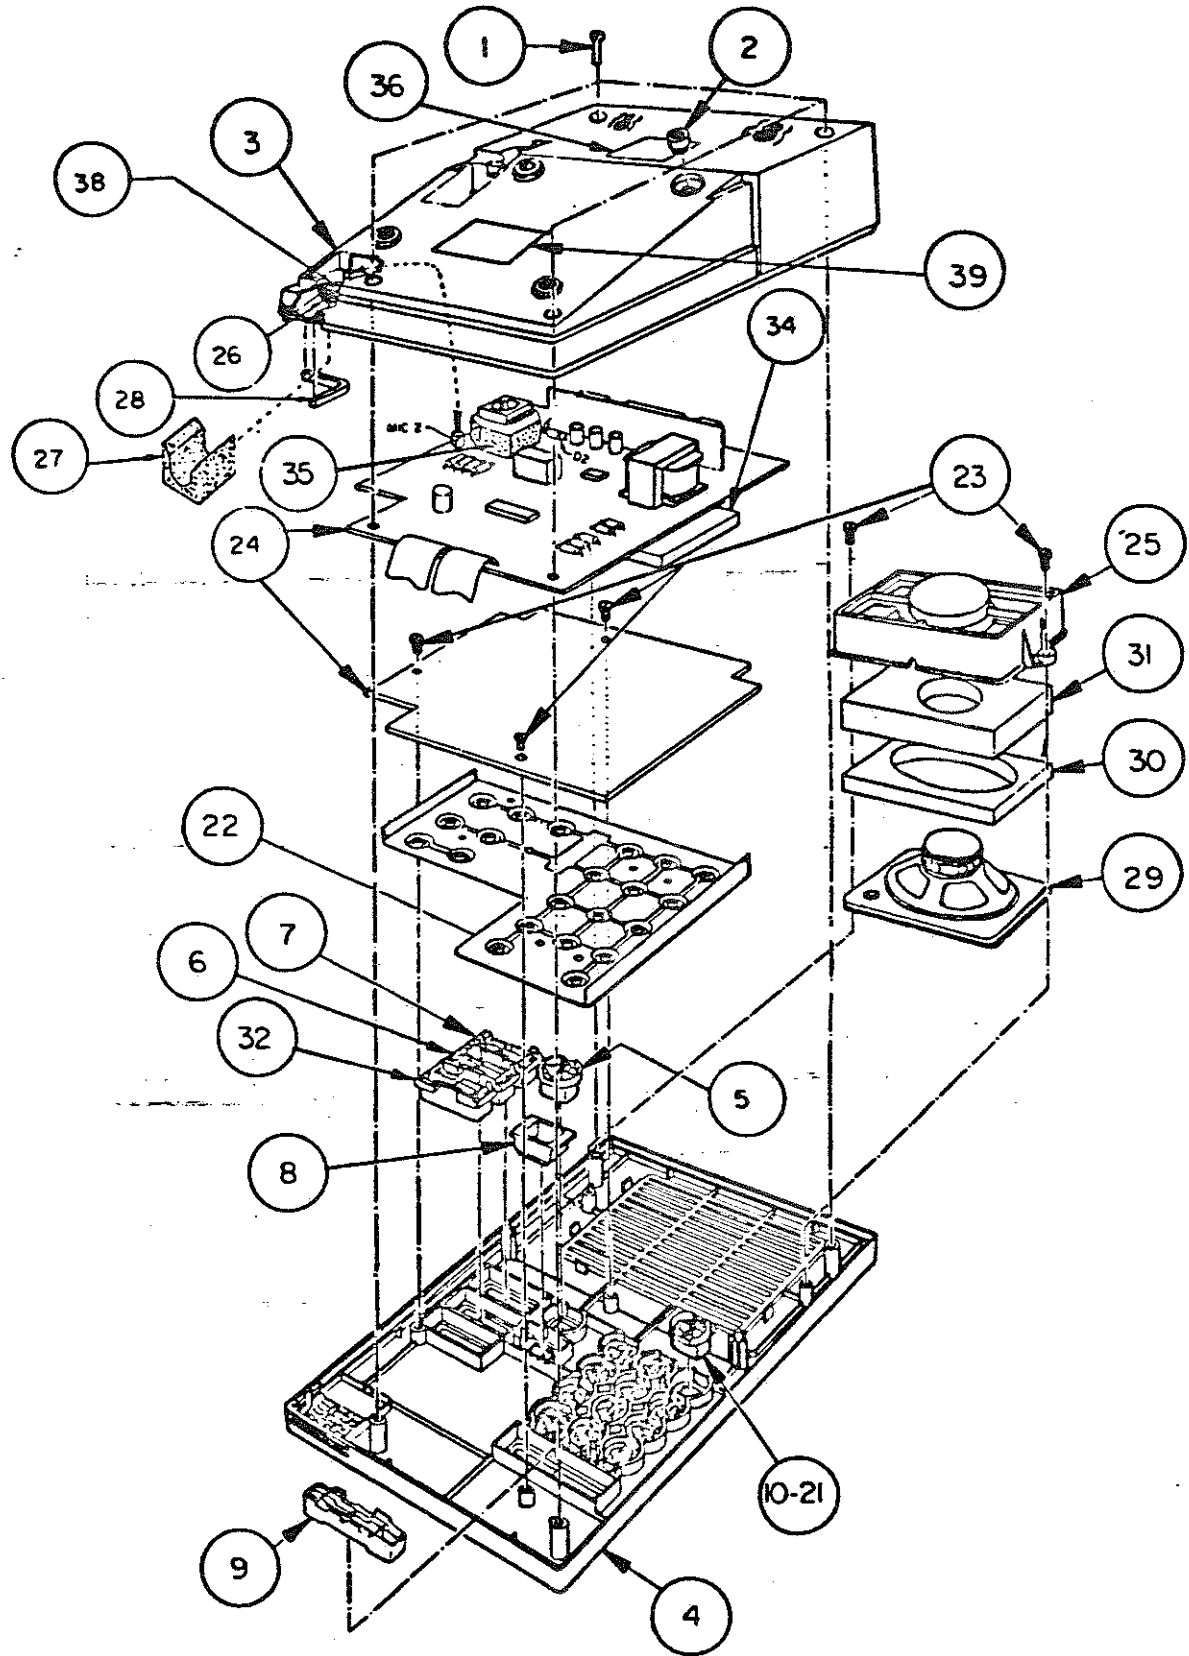

Fig. 3 - NT1L0701 Handsfree Assembly - Assembly of Parts
* Silver satin. ** Fig. 3 and Table B.